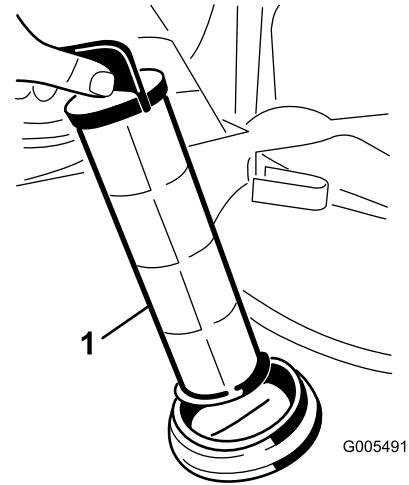

Figure 32
- Pull the suction strainer out of the strainer housing in the tank (Figure 32).